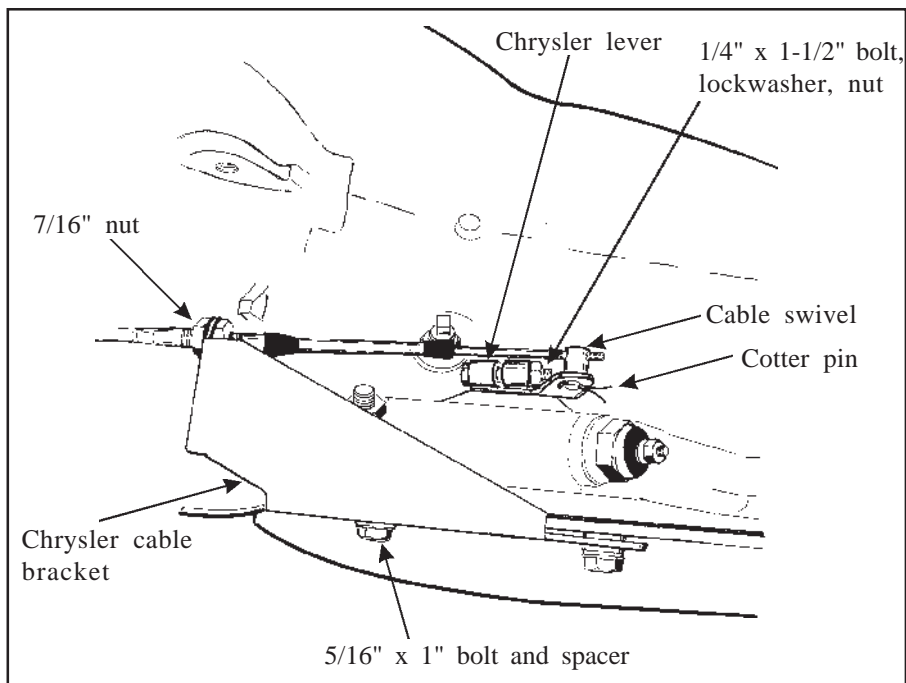

Figure 7
**STEP 19.** If you have not already done so, loosen pinch bolt on throttle lever on transmission. This is the lever on the small diameter shaft. Pry the lever off with a screwdriver and allow linkage to hang free. Remove and discard stock shift lever and stock shift linkage. Install B&M selector lever in position and tighten pinch bolt securely, see **figure 7**. Make sure lever is not pushed down so far as to touch the transmission case. This will cause the lever to bind on the case. The lever should travel smoothly from front to back with a positive click in each gear position. Install stock throttle lever in position on small diameter shaft as removed and tighten pinch bolt securely. Throttle lever must operate smoothly.
**STEP 20.** Remove the two transmission oil pan bolts directly below the shift lever. Install cable bracket in position, see **figure 7**, with two spacers between the pan and bracket. (If your transmission is equipped with a cast aluminum oil pan these spacers can be omitted.) Install the two 5/16-18 x 1.00" pan bolts supplied and tighten to 12-13ft-lb. Do not overtighten as this can damage pan gasket.